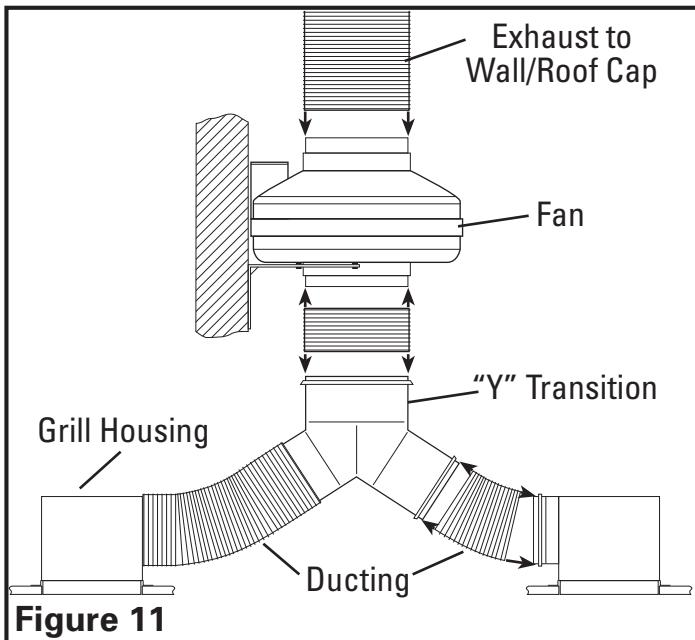

Figure 11
1. Connect one end of the ducting (not included) to the room level grill housing and the other end to the "Y" transition. Secure both ends in place using tape or a screw clamp to create as air tight a seal as possible. Repeat this step for the other room level grill housing (Figure 11).
2. Connect one end of the ducting to the top of the "Y" transition and the other end to the intake of the fan (Figure 11).
3. Connect one end of the ducting to the exhaust of the fan and the other end to a wall or ceiling cap. (Figure 11). Always duct the fan to the outside through a wall or roof cap.